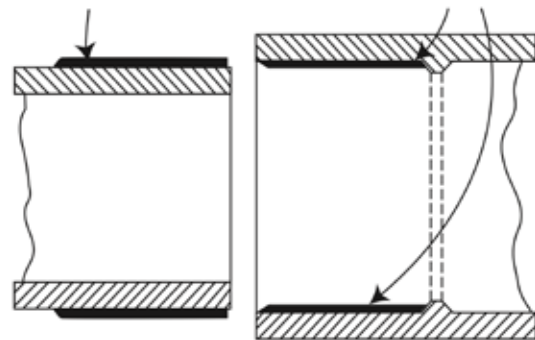

Figure 2: Solvent cement coatings of sufficient thickness applied uniformly around pipe and inside fitting socket.
2. A sufficient quantity of One-Step solvent cement must be applied to completely fill the gap present in the loose section of the joint (see Figure 2).